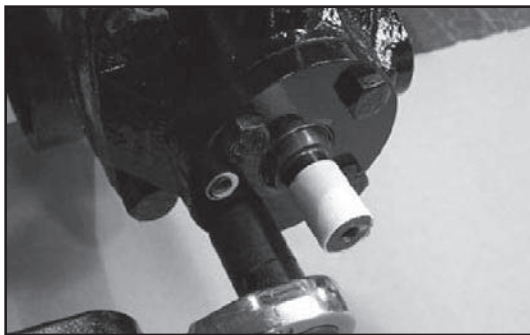

Figure 13. Taped Splines.
11. Lube the o-ring and seal lips with a light coat of grease. Wrap the input shaft splines with tape to avoid damaging the new seals and install the cover onto the bearing cap making sure not to roll the lip of the high pressure seal. Ensure the small hole in the cover is aligned with the relief plunger screw hole in the bearing cap. Torque the bolts to 53-64 ft/lbs. (Figure 13)